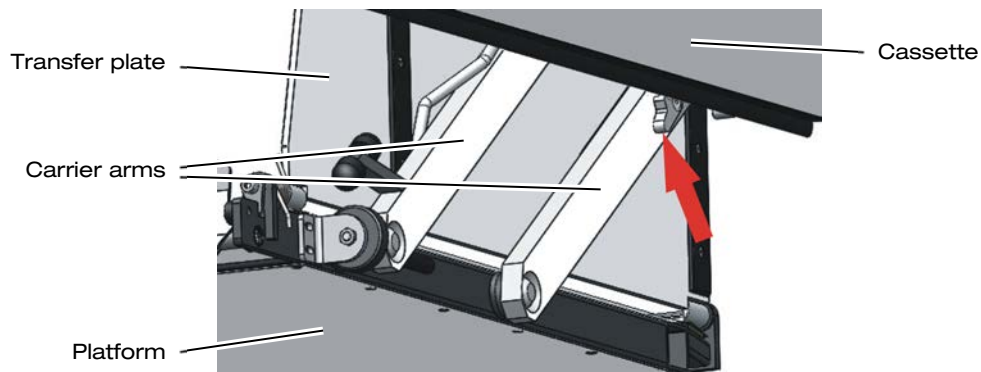

Figure 50: Adjusting the Switching Cam for the Retract Position (1)
- ⇒ Adjust the switching cam by hitting it lightly with a hammer from below (see Figure 50, page 68). In order to prevent damage to the switching cam, place a protective block (e.g. of wood or aluminium) between the hammer and switching cam.